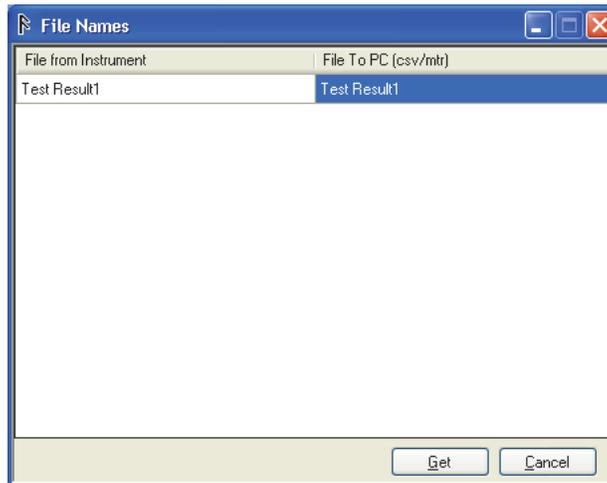

Figure 6-4. File Names Dialog with Test Result Name
3. Click the **Get From...** button. The test results window in Figure 6-4 shows in the display.